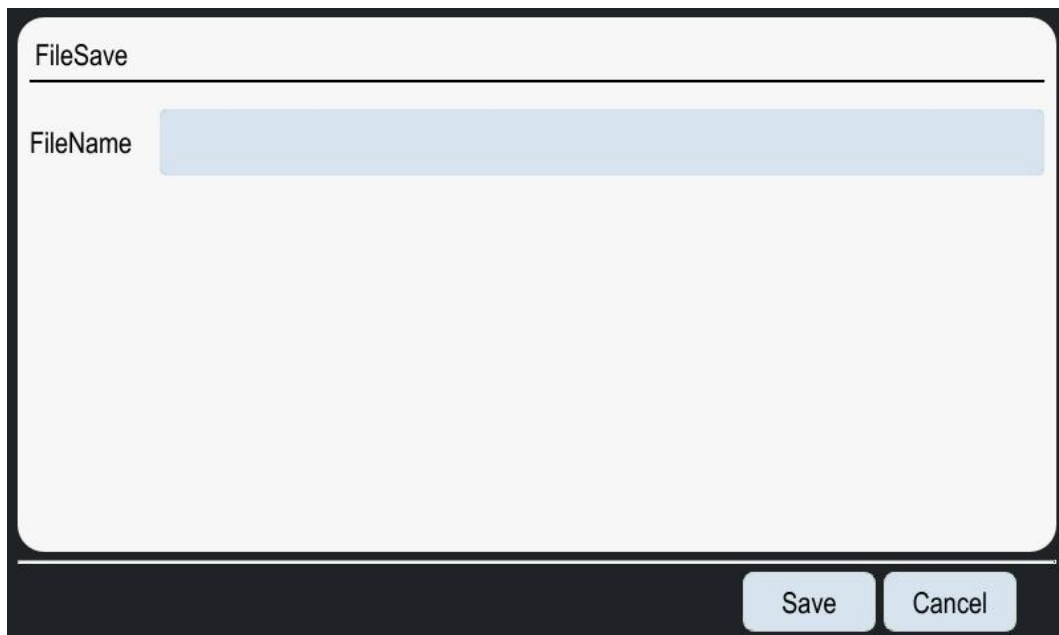

Figure 5-2 File Save interface
3. The system enters the file saving interface, and the file name is entered in this interface, as shown in Figure 5-2. Note that only numbers, letters and Chinese characters can be used for naming, and symbols cannot be used.